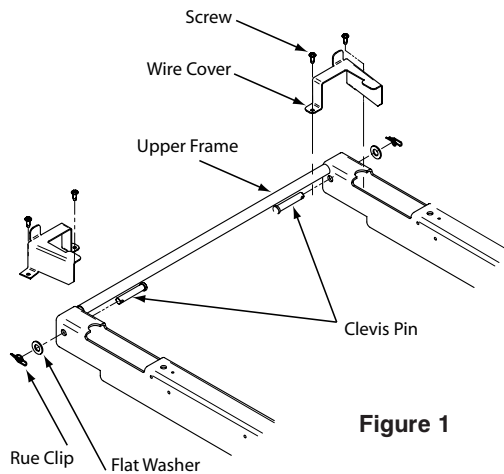

Figure 1
4. Using a Phillips screwdriver, remove the two screws securing the wire cover to the head frame (Figure 1).